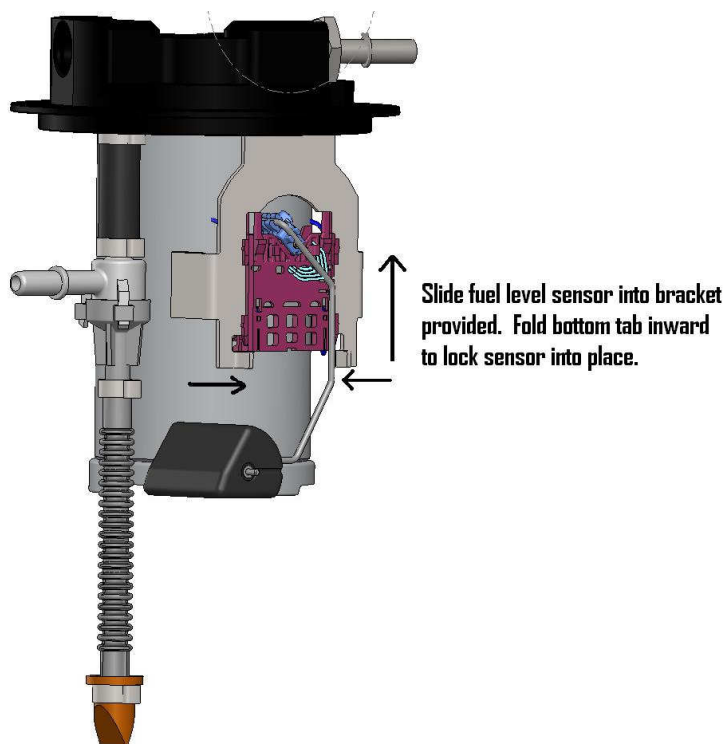

FIGURE 1-5
14. Now take Aeromotive fuel pump assembly and slide the leveling unit into it as illustrated in **FIGURE 1-5**. **NOTE:** When twisting the bottom tabs inward, be sure not to twist them into the wires on the bottom of the leveling unit. Move the leveling arm through it's full range of motion to ensure it clears the bracket tabs.